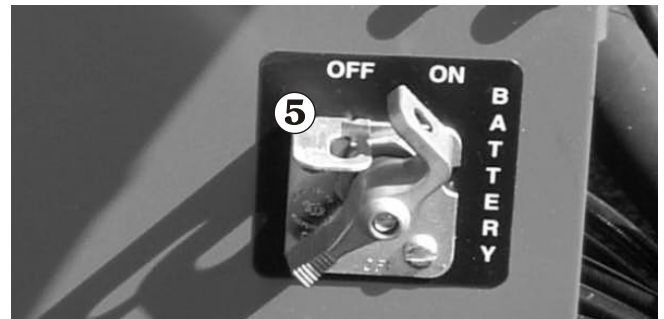
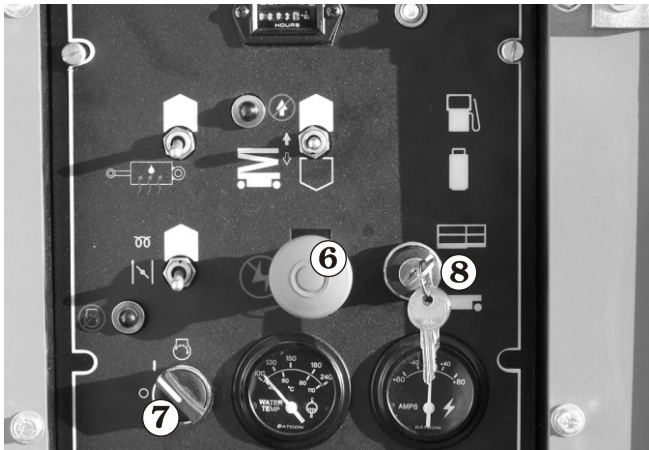

Figure 9.4
Figure 9.5
1. Check to be sure the **Battery** switch ⑤ is ON. (See Figure 9.4)
2. Check to be sure the **Emergency Stop** switch ⑥ (see Figure 9.5) is on (up).
3. Check to be sure the **Main Power** switch ⑦ is on (see Figure 9.5).
4. Check to be sure the **Selector** switch ⑧ is set to platform (up) (see Figure 9.5).
5. If the **Battery** Switch ⑤ (see Figure 9.4), **Emergency Stop** ⑥, **Main Power** ⑦, and **SELECTOR** switch ⑧ (see Figure 9.5) are all set correctly, and the engine will not start from the platform control box, set the **Selector** switch ⑧ to ground (down) and try to lower the platform from the ground control box.